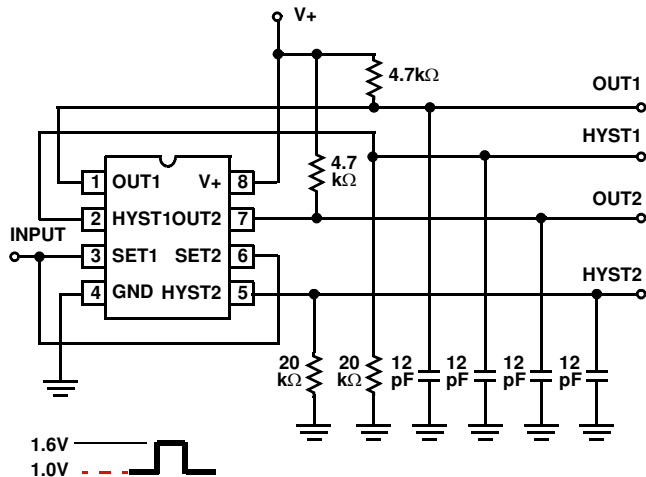

FIGURE 7. TEST CIRCUITS
**Electrical Specifications** The specifications below are applicable to both the ICL7665S and ICL7665SA. V+ = 5V, TA = +25°C, Test Circuit Figure 7. Unless Otherwise Specified
**Electrical Specifications** The specifications below are applicable to both the ICL7665S and ICL7665SA.  $V_+ = 5V$ ,  $T_A = +25^\circ C$ , Test Circuit Figure 7. Unless Otherwise Specified **(Continued)**